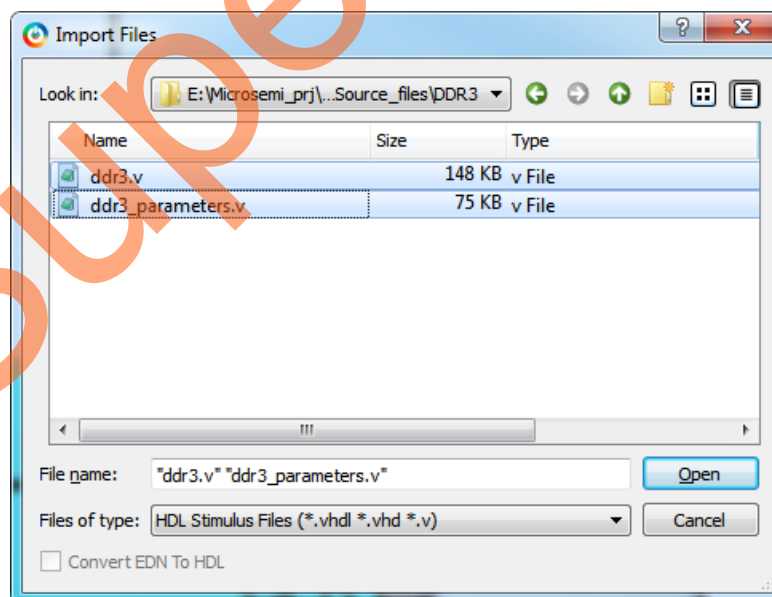

Figure 21. Import the DDR3 Models as Stimulus Files
- Select **HDL Stimulus Files (*.vhd *.v)** option from the **Files of type**, as shown in Figure 21.
- Select the provided **ddr3.v** and the **ddr3_parameters.v** files and click **Open**, as shown in Figure 21.